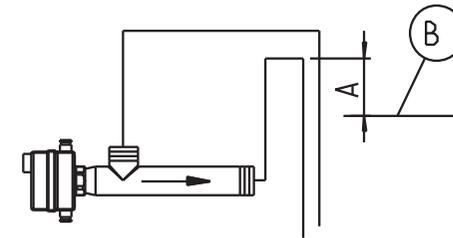

Fig. 4: Horizontal installation (below pool level)
If installed below the water surface (B), a pipe loop approx. 1 m (A) above the water surface is required (Fig. 4).